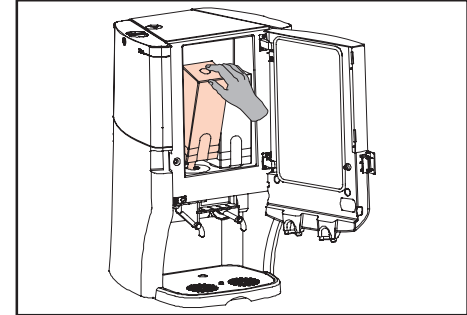

Fig. 26 Place ingredient packs
7. Place the ingredient packs (fig. 26).